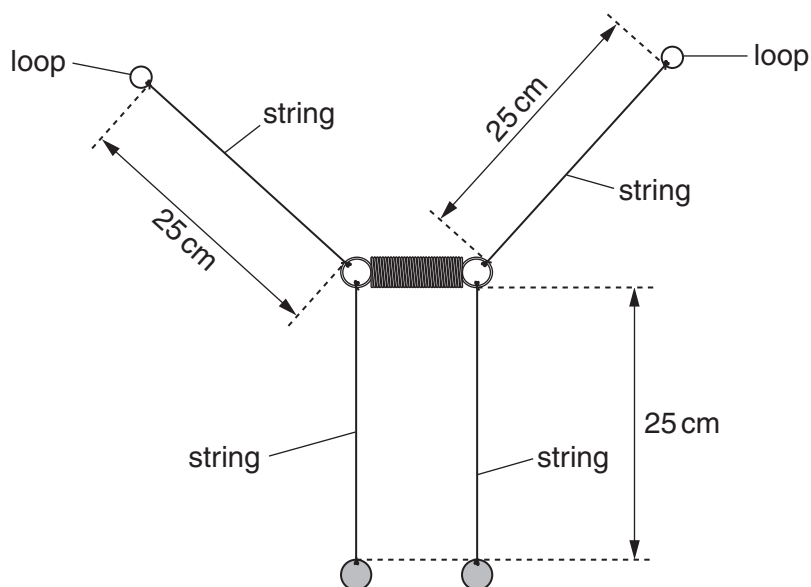

Fig. 1.1
- 1 The bobs, spring and string should be assembled as shown in Fig. 1.1.
Two small loops should be tied at the ends of the string where shown in Fig. 1.1. These loops should be large enough to fit over the rod of each clamp. The arrangement should be laid out on the bench.